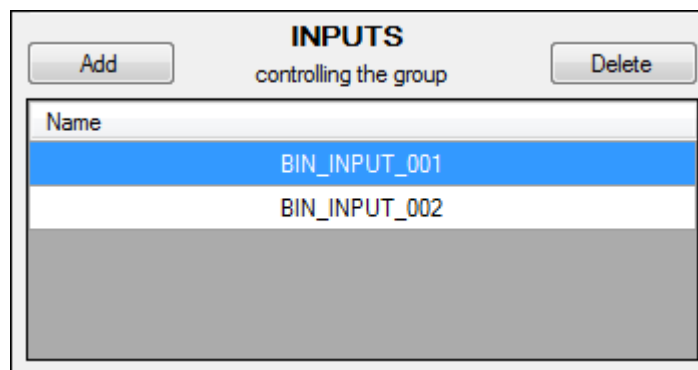

Figure 28: Window middle section: selection of inputs to control the group.
To remove an input from the list, you must select it by clicking on its name, then press the button “Delete” at the top, right to the title for the window shown on *Figure 28*.
- You can select one or more input at a time (refer to *Figure 29*) by holding “Ctrl” or “Shift” key (for consecutive selections) while clicking on the input names. Then press the “Add” button to include the selected inputs in the list of *Figure 28*.